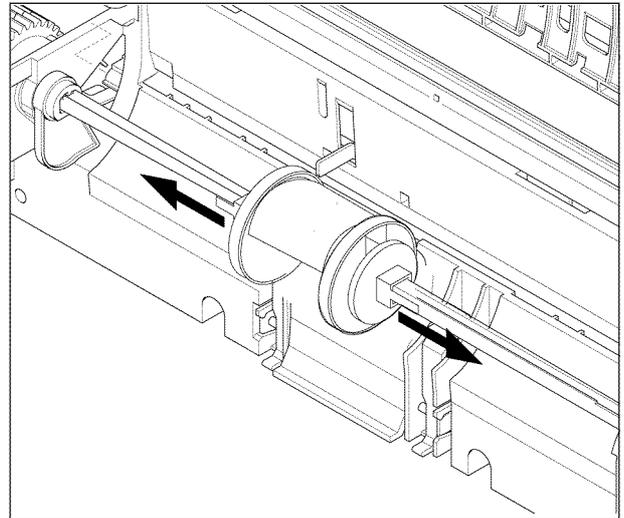

Figure 4
5. Release the catches on both sides of the pick up assembly, then slide them apart, Figure 4.